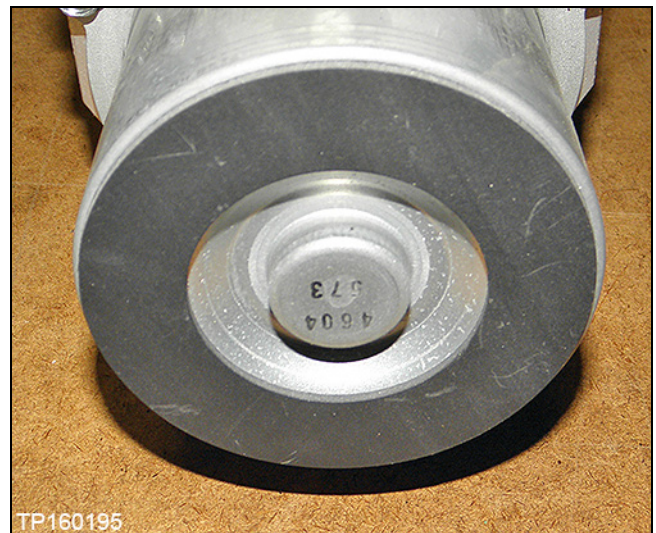

Figure 4
4. Attach the Insulator onto the end of the power steering pump motor housing (Figure 4).